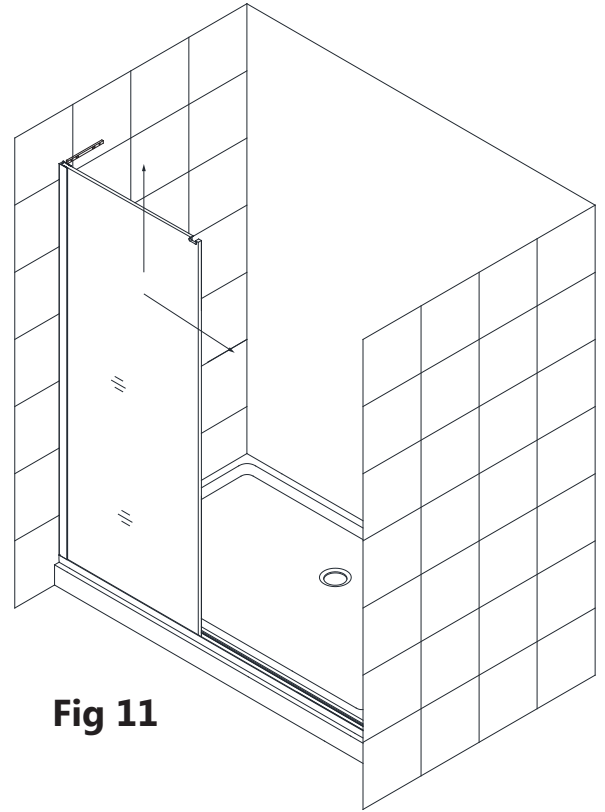

Fig 11
10. Remove the **Stationary Panel Glass (#01)** and the 2" pieces of the **0.5mm Bottom Spacer Strips (#14)**. (Fig 11)